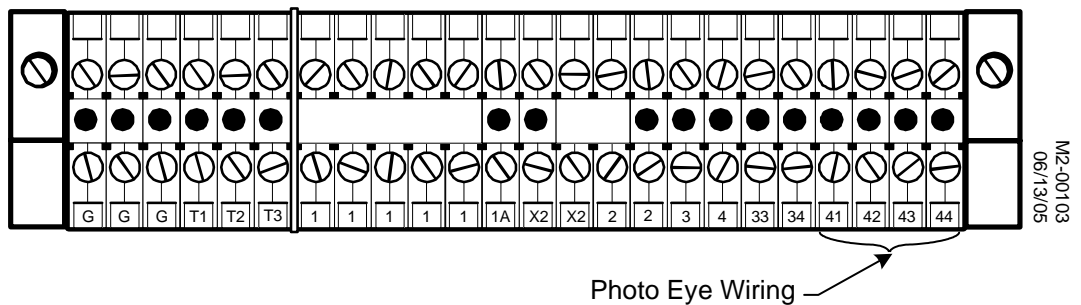

Figure 4-5: Photo Eye Connections on Terminal Block
4. Connect the photo-eye wiring to the terminal block. See Figure 4-5.